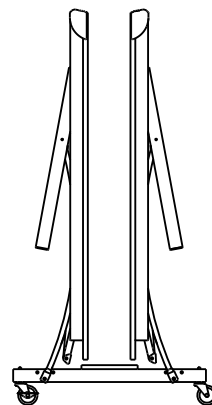

Figure 15
4. Raise other table half in the same manner as shown in Figure 15.